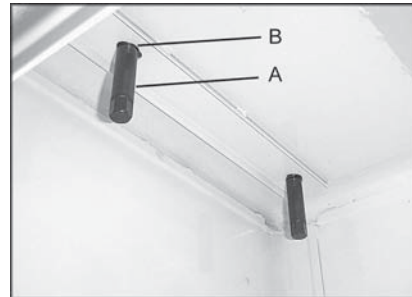

Figure 20
3. Attach bed assembly to stand with two 3/8" lock bolts and lock washers (Fig. 20). Hand tighten only at this time.